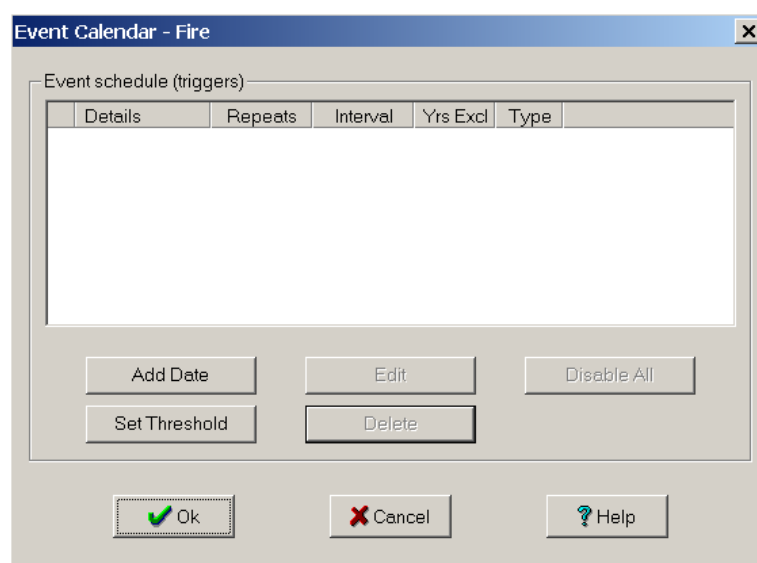

Figure 13.5 Event Calendar window
16. Select the '**Settings**' button to obtain the Event Settings dialogue, shown in Figure 13.5
3. Select **'Initialise Module'** from the drop-down menu and obtain the **'Event Calendar'** panel (figure 13.5)